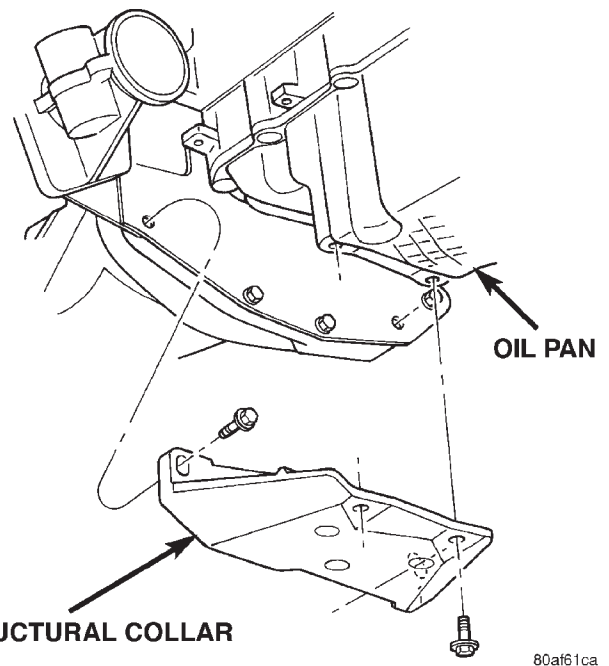

Fig. 17 Structural Collar—Removal and Installation
- (2) Remove structural collar from oil pan to transaxle (Fig. 17).
(1) Install the structural collar (Fig. 17) using the following 3 step torque sequence:
(2) Lower vehicle.